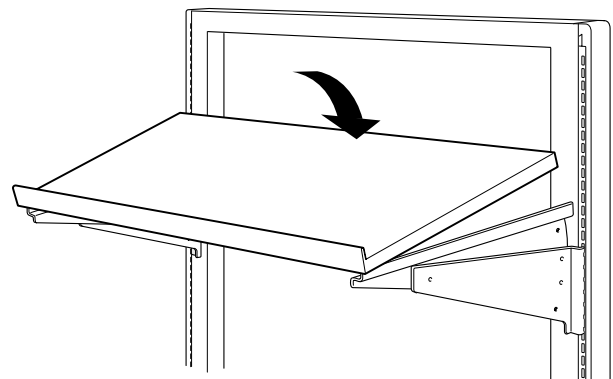

Figure 3
3. Place fronts of assembled support brackets under front lip of shelf, making sure that both brackets are positioned between the shelf and center "Z" bar. Push rear of shelf down to seat securely. (Figure 3)